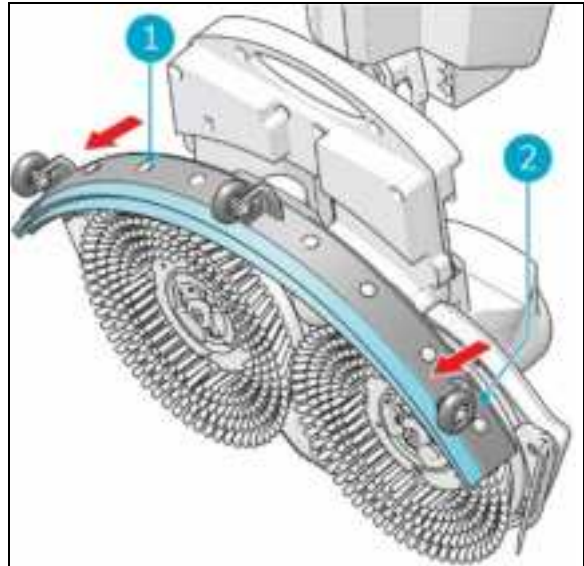

Figure 29
3. Pull on the left side of the squeegee to remove it (Figure 29, pos 1).
4. Pull on the right side of the squeegee to remove it (Figure 29, pos 2).